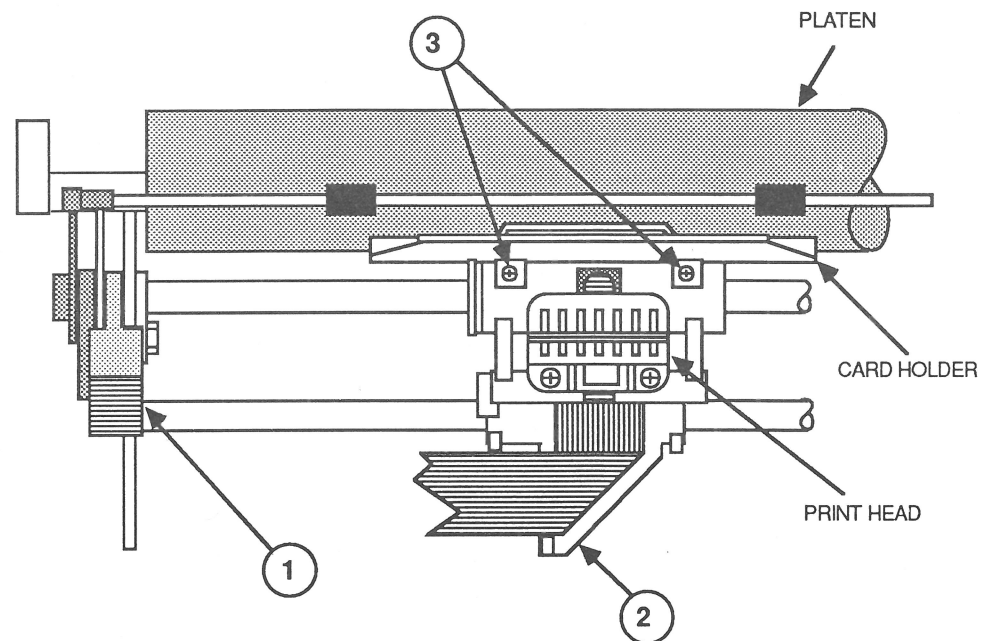

FIGURE 5
1. Push the paper thickness lever (Figure 5, #1) toward the back of the printer, to the number-one position.
3. Move the carrier assembly to the center of the printer (Figure 5, #2).
4. Loosen the two card guide set screws (Figure 5, #3).